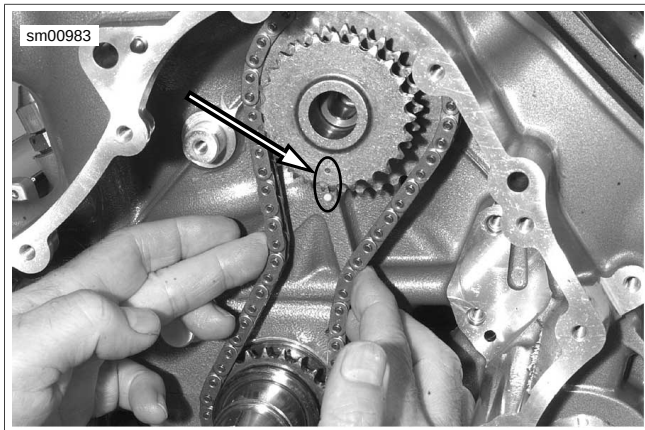

Figure 3-30. Triple Sprocket Timing Marks
3. See Figure 3-30. Align timing dot on triple sprocket with the one on the case. Position on water pump shaft with drive chain on crankshaft drive gear. Squeeze drive chain to simulate the chain tensioners in place and verify dot alignment. Walk chain around crankshaft gear to change position if necessary.